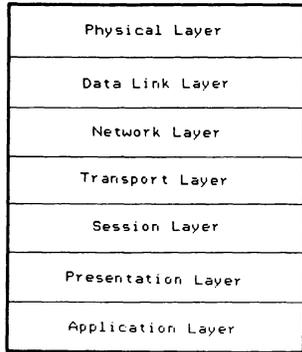

Figure 2
7. *The Application Layer:* The seventh layer represents the protocols required for specific applications on various systems. Remote terminal access, file transfer, electronic mail, digitized voice, teleconferencing—any application, technical or commercial—that is handled by the host system, is assigned protocols by which to communicate with "foreign" hosts (Figure 2).